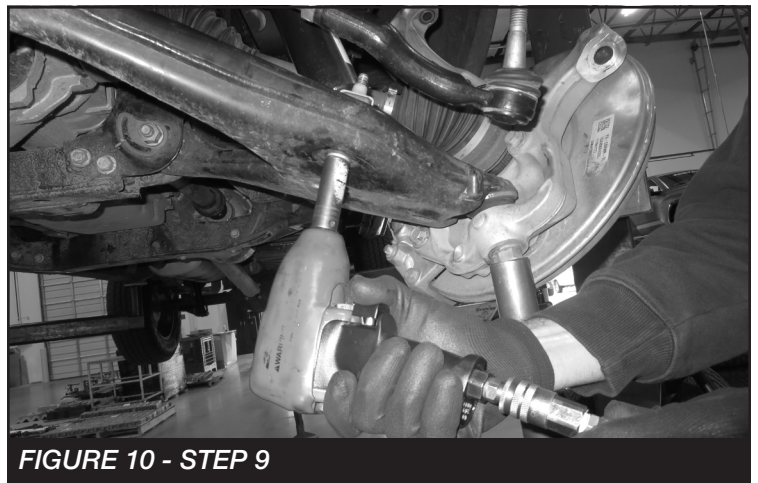

FIGURE 10 - STEP 9
9. Install the lower coilover bolts, torque to 37 ft-lbs. Next reinstall the tie rod and upper ball joint to the knuckle. Torque to 28 ft-lbs **SEE FIGURE 10**